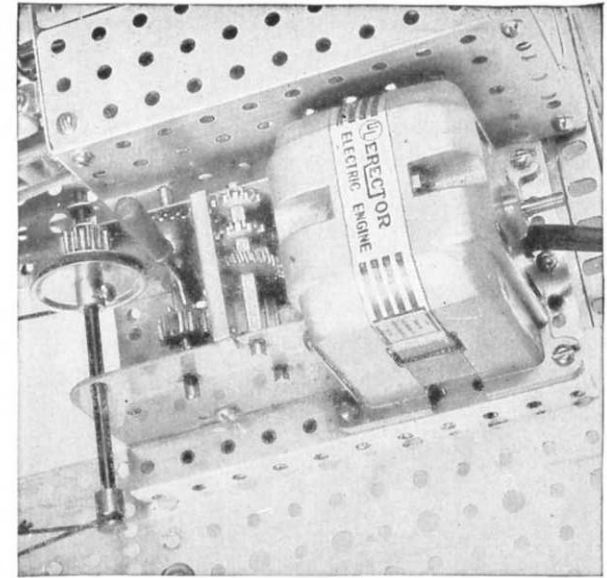

FIGURE 8
The power unit (Fig. 8) is an A-49 electric engine geared as shown. An (AT) 4" shaft is used with one P37 collar, P13-B 12 tooth pinion gear, P7-A pulley and a (DB) motor pulley. The power unit is mounted to an (MD) 2 1/2" x 5" base plate which is mounted to the base of model as shown. Two (B) 5" girders are fastened to the underside of the base and these girders support the power unit. The driving string passes over the pulley in the power unit, over and around the flywheel, up and over the sheave pulley, then back to the power unit.